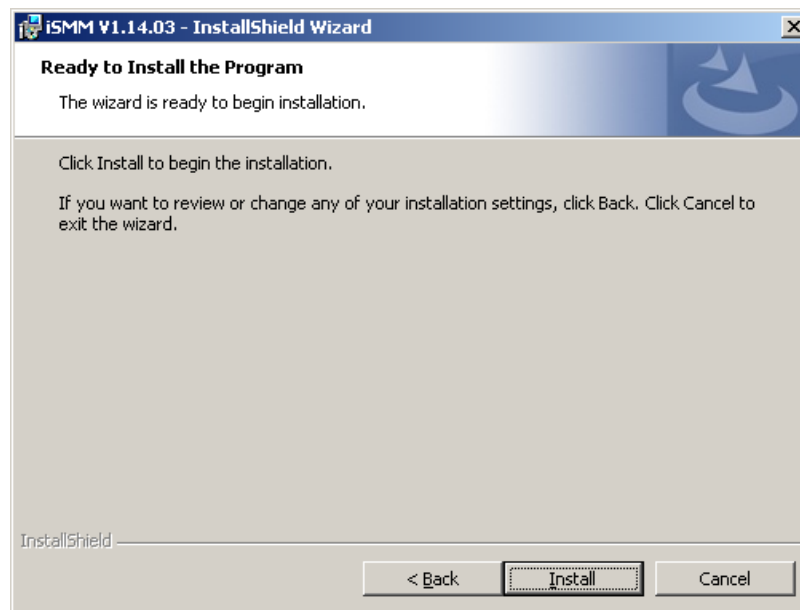

Figure 6-43: Ready to Install the Program Window
Step 10: The Ready to Install the Program in Figure 6-43 appears.